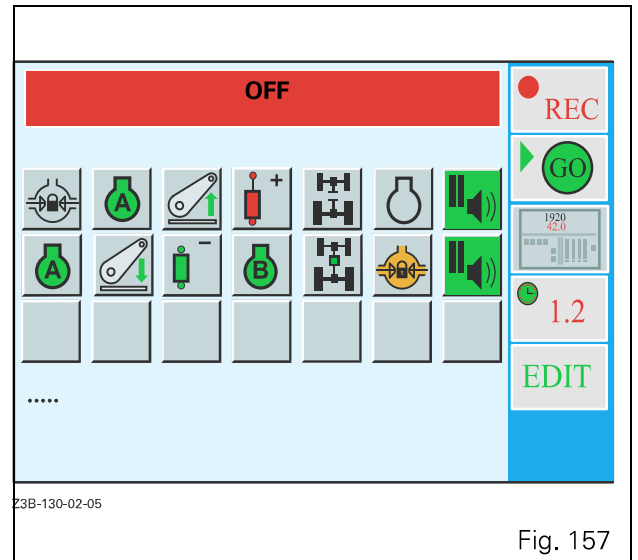

Fig. 157
- Validate either by pressing the encoder, or by pressing key  $\llcorner_1$ . The window (Fig. 157) is displayed with the changed icon.